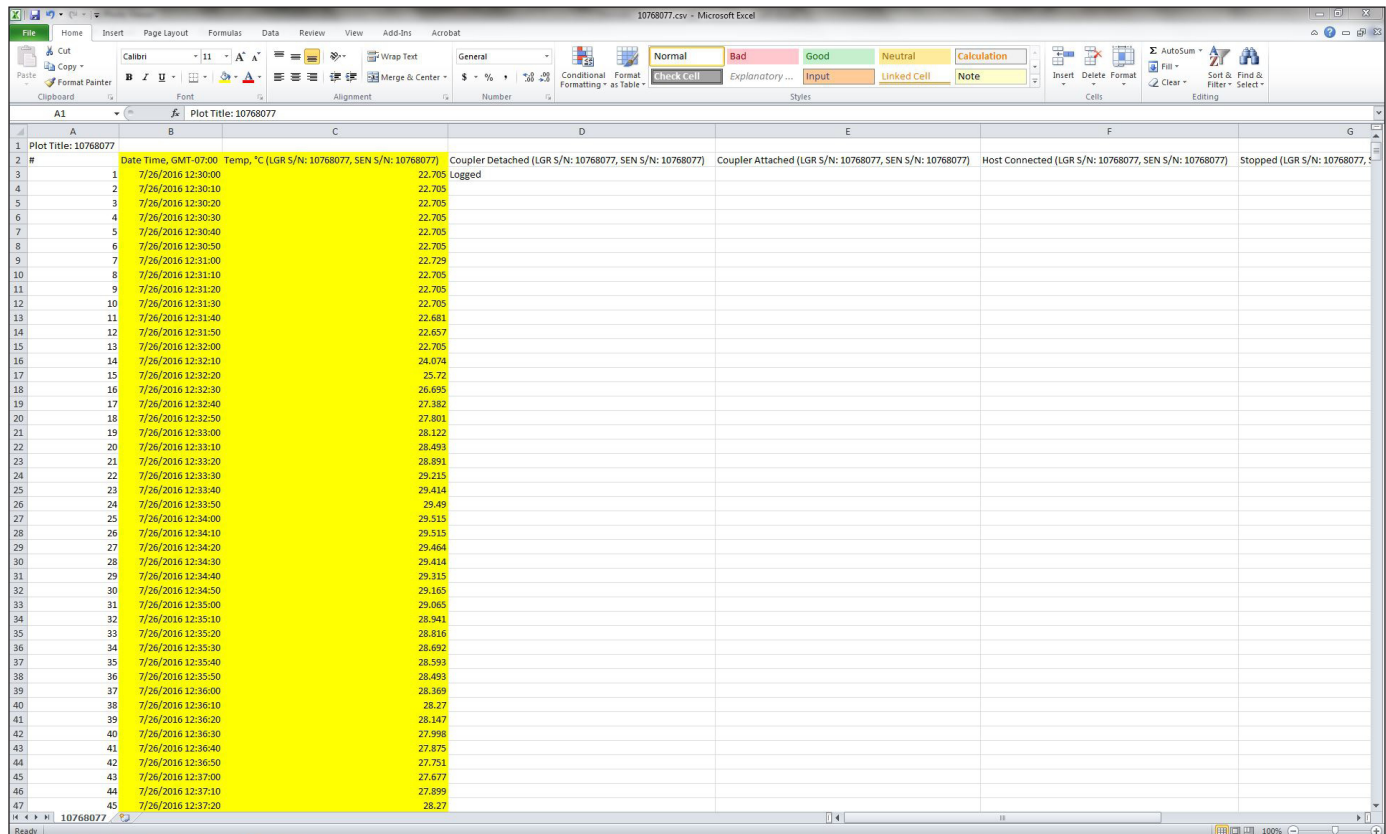

Figure 2.12. Screen capture showing exported .csv file opened in Microsoft® Excel with the Date Time and Temp columns highlighted.
14. Open an exported .csv file, select the Date Time and Temp columns (fig. 2.12), then copy and paste them into columns A-B of the blank worksheet.